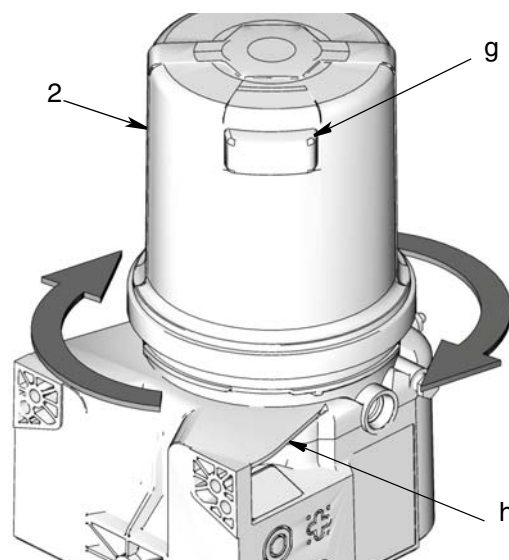

FIG. 12
1. Install new reservoir (2) with vent (g) facing toward the rear left (h) of the G3 base. See FIG. 12 for correct orientation of these parts to ensure proper installation.
2. Position strap wrench over reservoir and use it to turn reservoir 1/4 turn clockwise till reservoir will not turn any farther (FIG. 12).